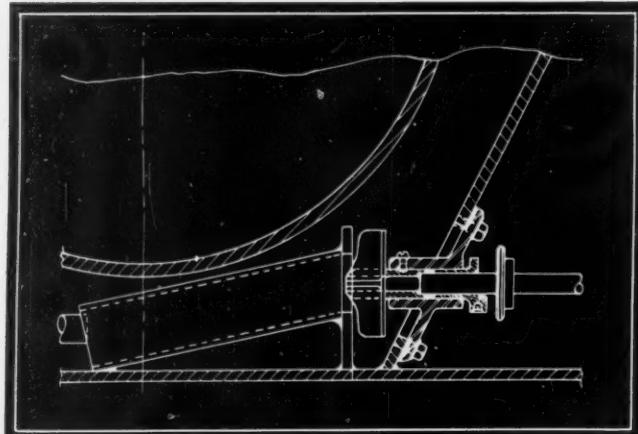

Fig. 4—Water is drawn through pipe and distributed in surrounding jacket water
Two of the problems solved in connection with the warming up and revitalizing of unused chocolate were (1) that of circulating the jacket water in the tanks without an elaborate pumping set up, and (2) that of developing a blower to deliver about 1000 cubic feet per minute of air at 12-inch water pressure. *Fig. 4* shows how the first problem was solved. A simple centrifugal pump rotor, shown also in *Fig. 3*, draws water through a pipe from the far side of the tank and allows it to escape into the surrounding jacket water. Development of a centrifugal air pump capable of fulfilling the requirements with an input of only three horsepower resulted in the blower shown in *Fig. 3*.